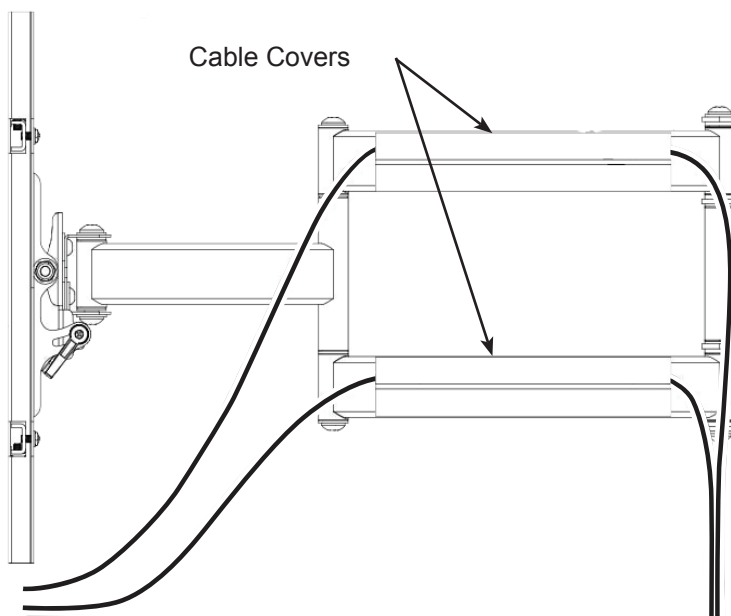

Figure 5
1. Route the electrical and data cables along the Arm Assembly and secure in place using the provided Cable Covers (Figure 5).